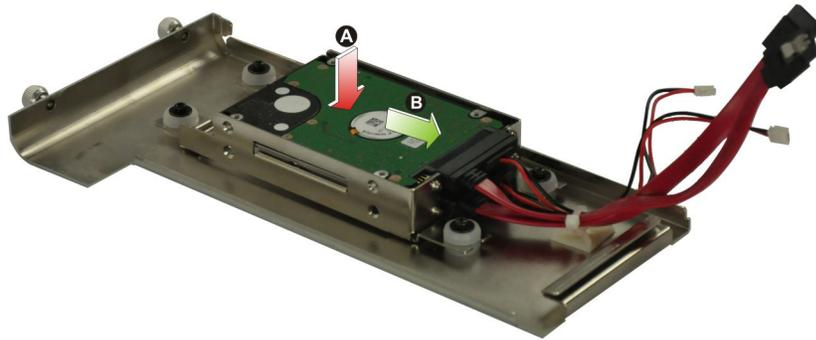

Figure 3-3: HDD Installation
Step 3: Attach the HDD to the HDD bracket, and then slide the HDD to connect with the SATA connector (**Figure 3-3**).